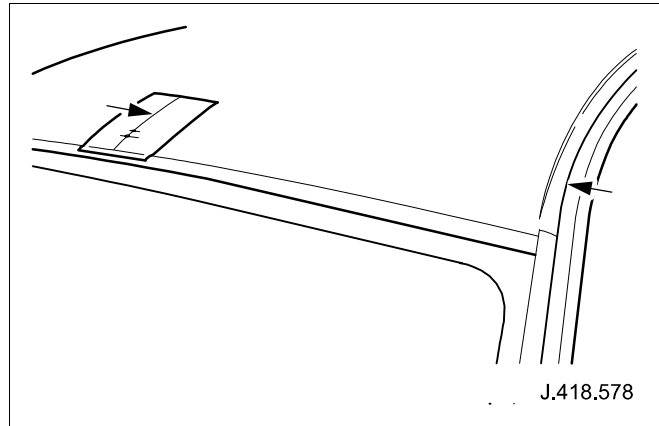

Fig. 7
- 20 Using a sharp lead pencil, mark centerline on masking tape. (See Fig. 7)